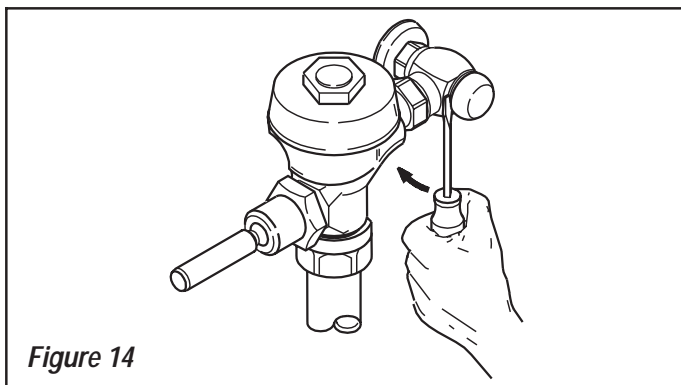

Figure 14
VANDAL RESISTANT CONTROL STOP CAP REMOVAL INSTRUCTIONS (Figure 14)
1. Using a large flat screwdriver, gently lift the Cap from the Control Stop as follows. Insert the screwdriver blade between the bottom edge of the Cap and the flat surface of the Control Stop body as shown in Figure 14. Using the screwdriver as a lever, push the screwdriver handle straight back towards the wall. Gently lift the Cap from the Sleeve. It may be necessary to work the screwdriver around the diameter of the cap to further lift the Cap from the Sleeve.